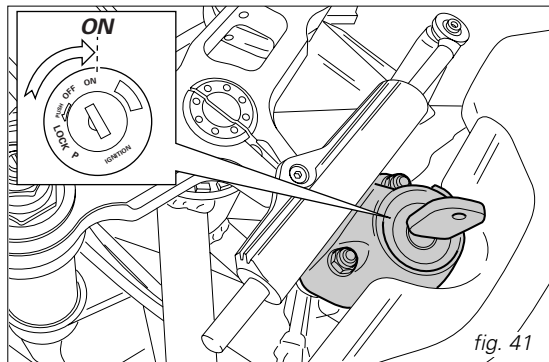

fig. 41
1) Move the ignition key to **ON** (fig. 41). Make sure both the green light **N** and the red light  on the instrument panel come on.
3) Check that the stop switch (2, fig. 41) is positioned to **○ (RUN)**, then press the starter button (3).